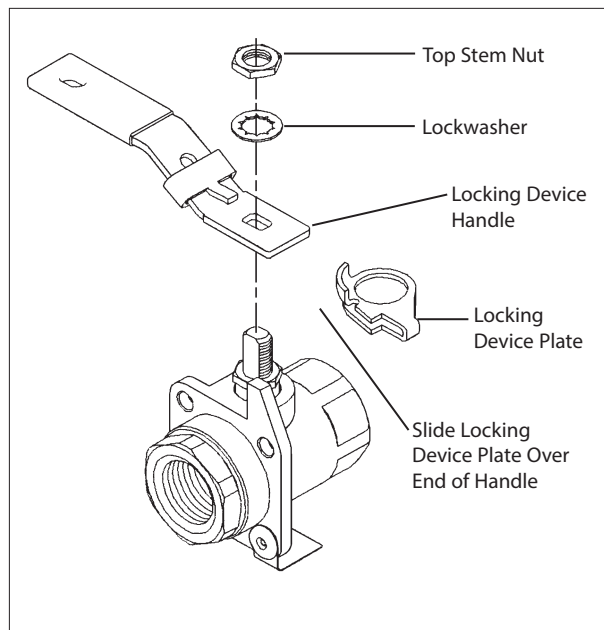

Figure 3.
3. Slide locking device plate over the end of the locking device handle (See **Figure 3**).